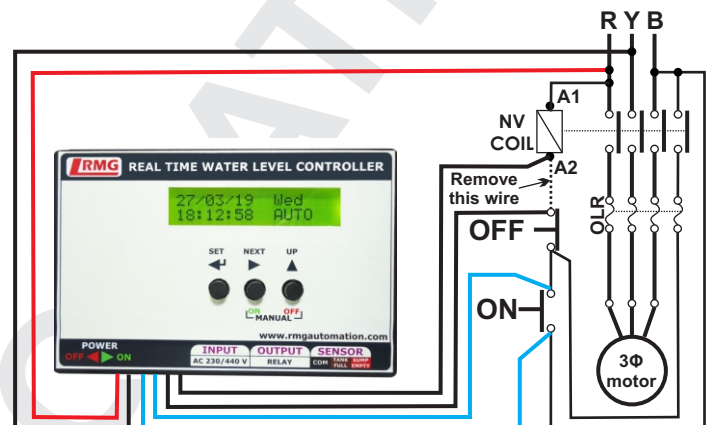
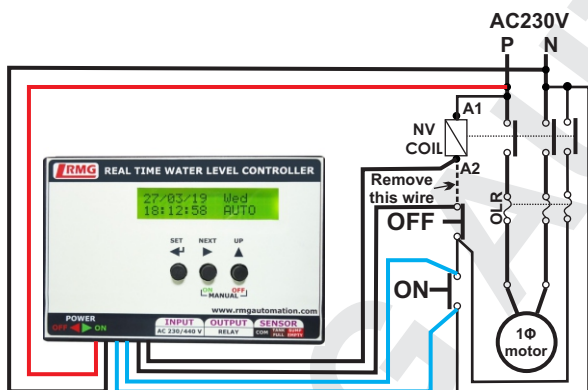

Figure2: 3Φ Starter
Figure3: 1Φ Starter
Step 4: For starter, Connect blue pair wire to ON button of starter in parallel and black pair wire to OFF button in series (Refer to figure.2 and figure.3)